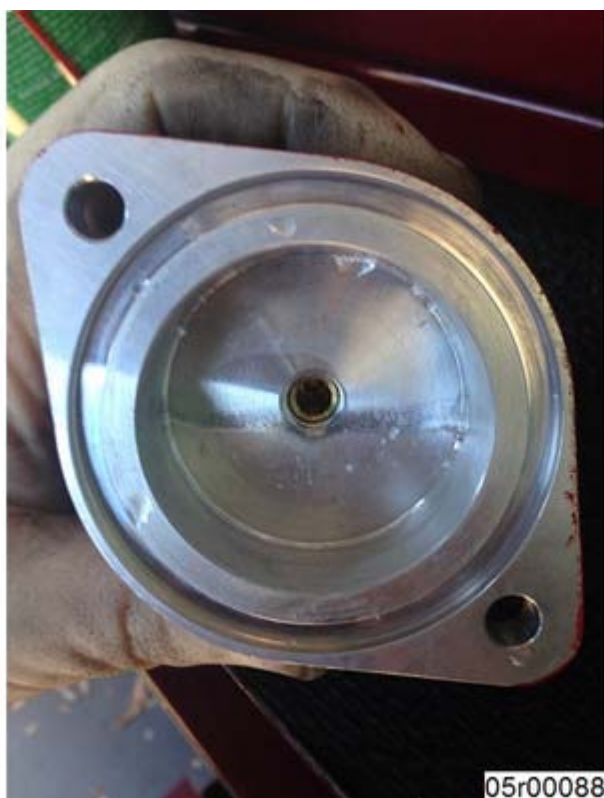

Figure 1, Low Pressure Regulator Fuel Control Cover Malfunction Identified by Signs of Moisture
5. Check for moisture or signs of moisture in the low pressure regulator fuel control cover. See Figure 1 below.
Low pressure regulator fuel control cover, Part number 5347803, has been released to prevent moisture from entering the boost reference side of the low pressure regulator. The boost reference line fitting has been relocated to the bottom of the new low pressure regulator fuel control cover, which will prevent water pooling inside as shown in Figure 1 above.